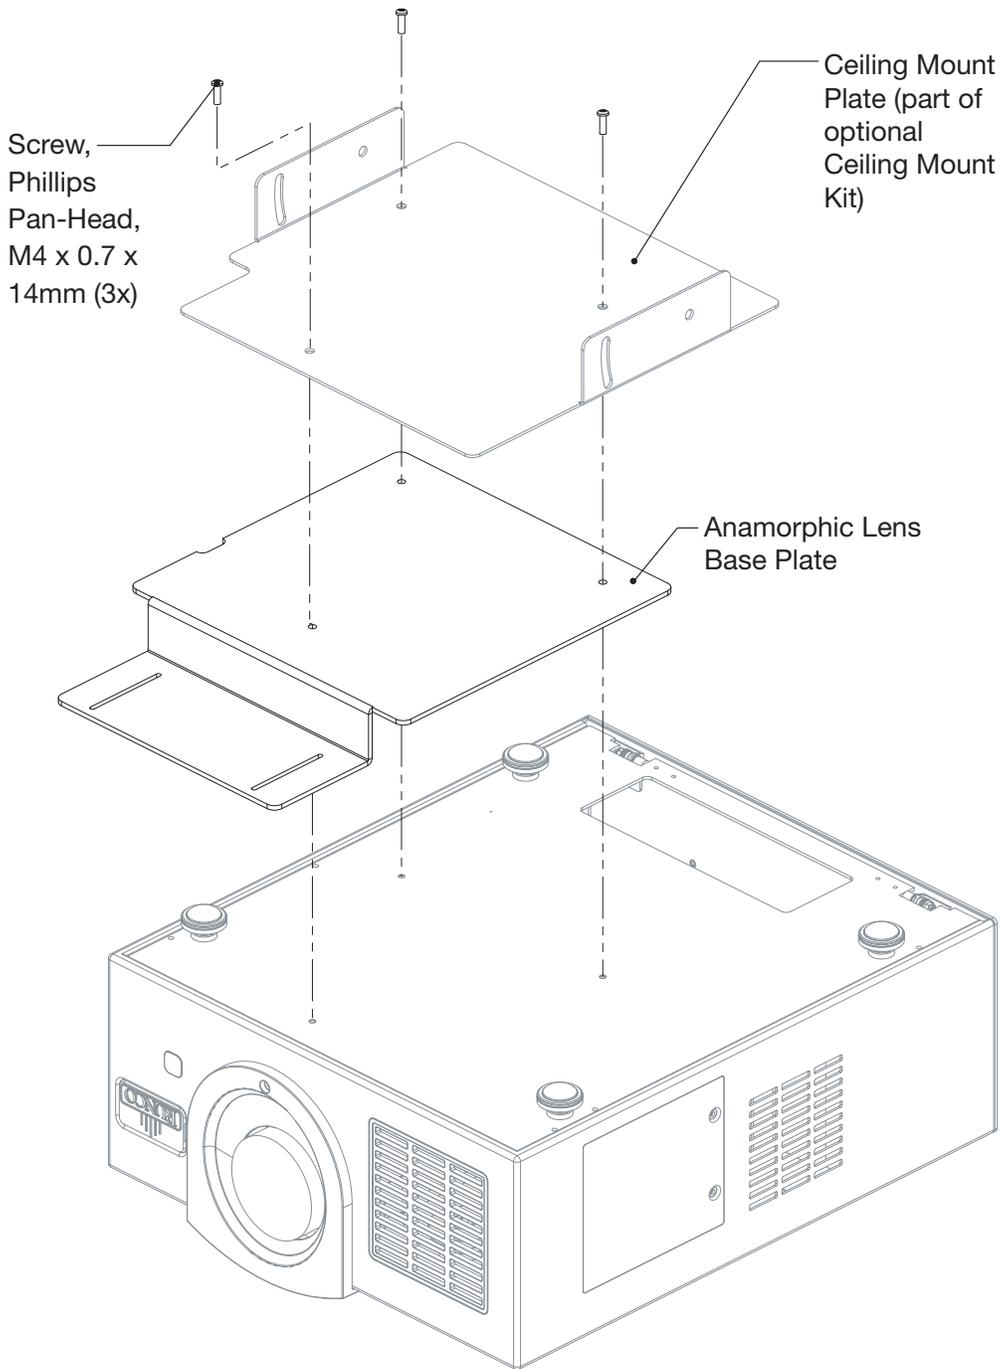

Figure 3-7. RS-440LT/CineWide with Lens Base Plate and Ceiling Mounting Plate - Exploded View
4. Secure the CineWide base plate (and ceiling mounting plate, if needed) to the projector with the M4x14mm screws provided with the CineWide lens base plate. See Figure 3-7.